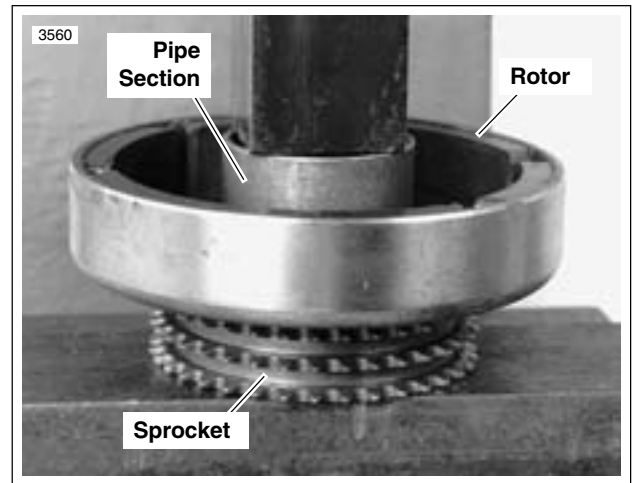

Figure 7-46. Pressing Rotor onto Sprocket
6. See Figure 7-46. Attach rotor to sprocket.